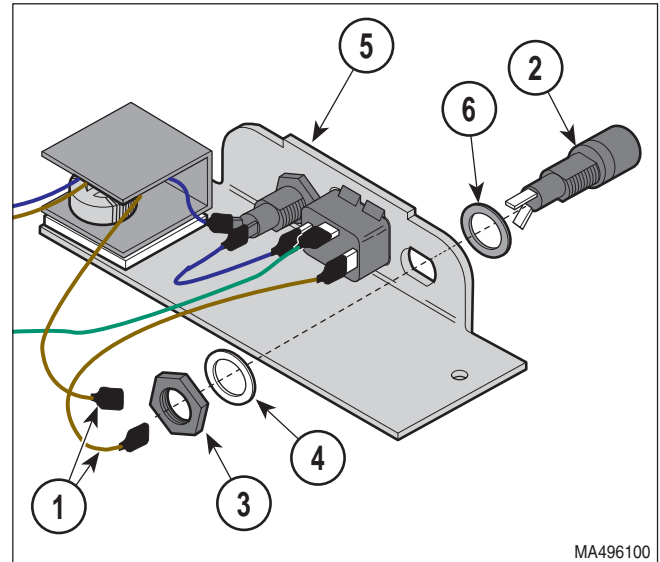

Figure 4-61. Fuse Holder Removal / Installation
- (1) Remove power inlet bracket. (Refer to: Removal - steps 1 thru 5 of para 4.45).
- (2) Tag and disconnect two wires (1, Figure 4-61) from terminals of fuse holder (2).
- (3) Remove nut (3), lockwasher (4), and fuse holder (2) from power inlet bracket (5).
- (4) Remove gasket (6) from fuse holder (2).